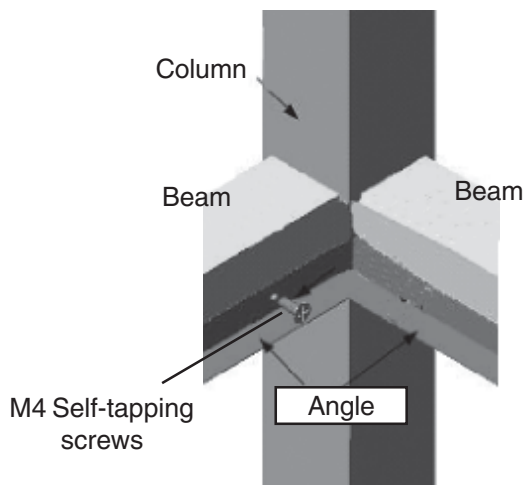

Figure 8
- a. See figure 8. Fasten aluminum angles (17)(18)(19)(20) to cross beams (3)(8)(11)(15) with M4 self-tapping screws. Tighten screws.